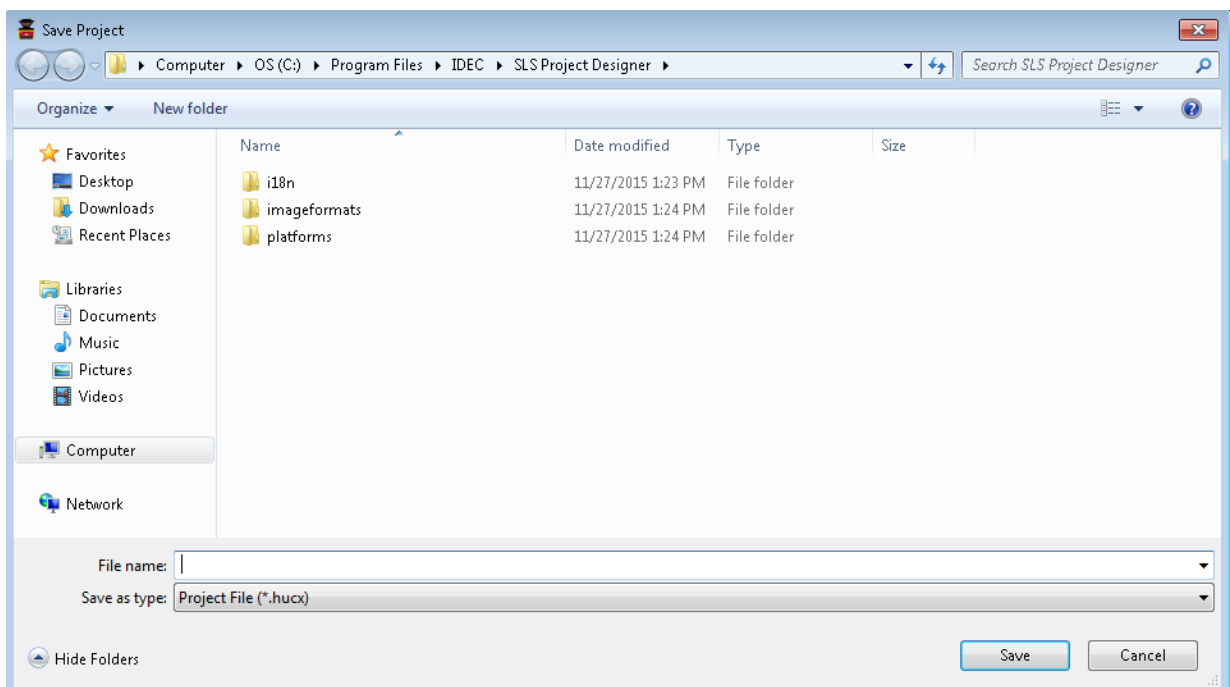

Figure 7-53 Save project file
- c) Enter a file name and click Save button. Change the location of the file if necessary. (Figure 7-53)